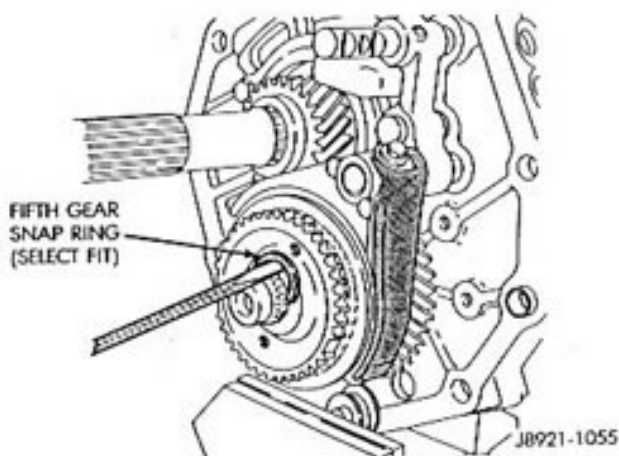

Fig. 25 Fifth Gear Snap Ring Removal
(4) Remove the fifth gear snap ring (Fig. 25). Retain the snap ring for assembly reference. It is a select fit component.